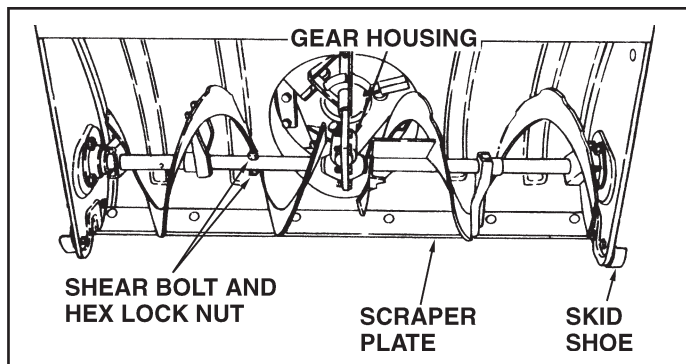

FIGURE 27
(Refer to figures 27 and 28 on page 18.)
- If the augers will not turn, check to see if the shear bolts have sheared. See figure 27. Two replacement shear bolts and hex lock nuts have been provided with the snow thrower. For future use order part number 710-0891 shear bolt and number 43064 hex lock nut.